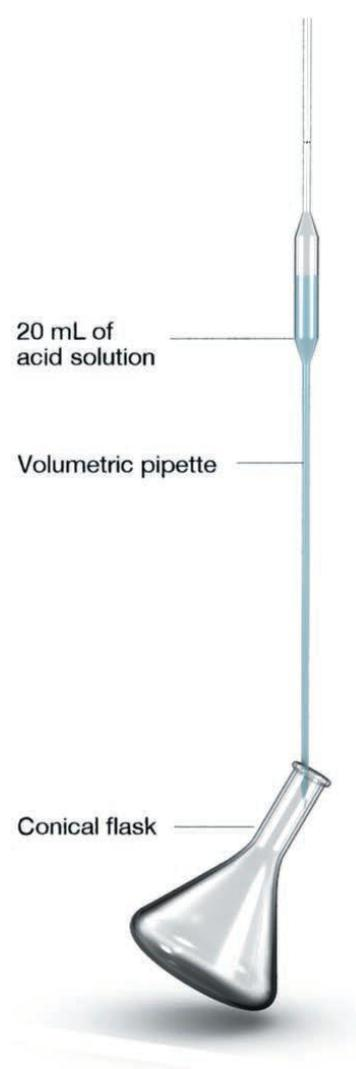

Figure 1.3.8:
- The aliquot is released with the tip of the pipette touching the inside of the flask (or alternative glassware) to avoid any splashing and consequent loss of volume (Figure 1.3.8).